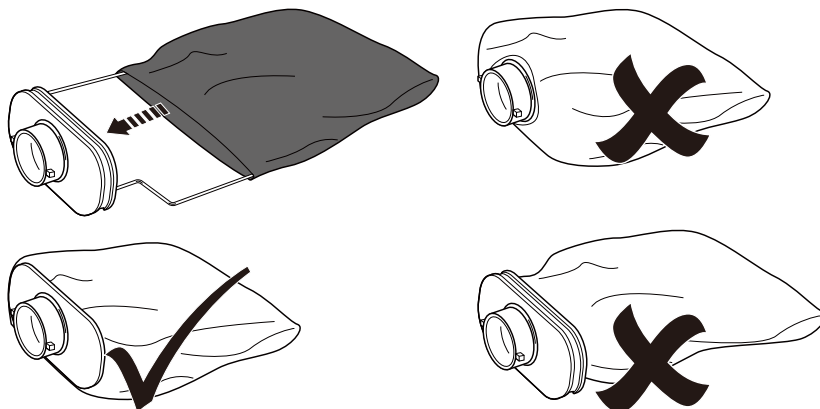

Fig. 11
- > Re-fit the dust bag (8a) to the connector (8c), ensuring that the elasticated collar is correctly located (Fig.11) and re-attach it to the product.